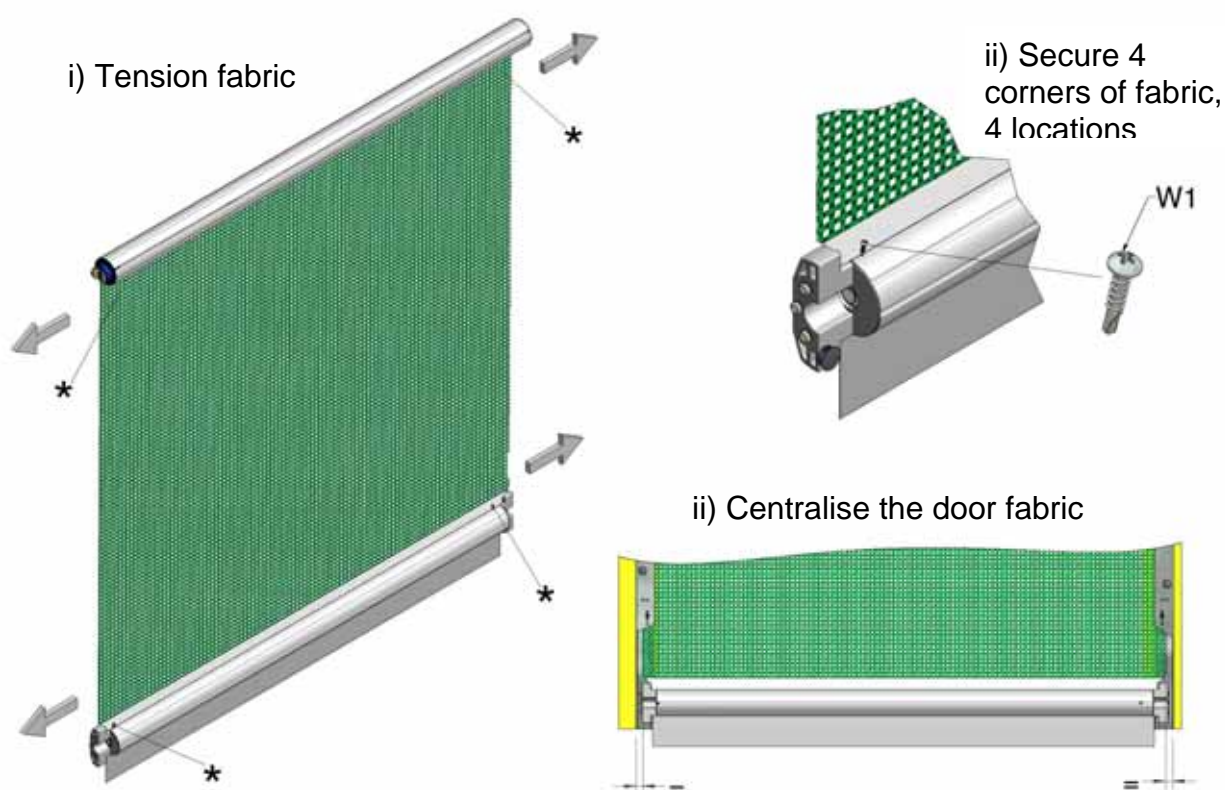

Figure 15, Centralising Screen.
15. Lower your door fully, centralise the screen and secure each corner using 19mm self-drilling screws supplied (W1). It is important to tension sheet sideways before fixing to remove creases as shown in Figure 15.